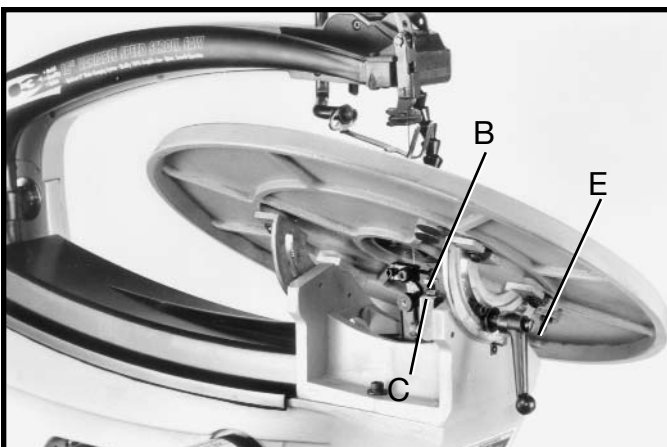

Fig. 30
3. If the table is not at 90 degrees to the blade, adjust the table accordingly, making certain screw (B) Fig. 30, contacts bottom of table surface when table is 90 degrees to the blade. Screw (B) can be adjusted by loosening nut (C), thread screw (B) in or out the desired distance and tighten nut (C).
6. If the table is not at 45 degrees to the blade, adjust the table accordingly, making certain screw (E) Fig. 30, contacts side of base when the table is at 45 degrees to the blade.